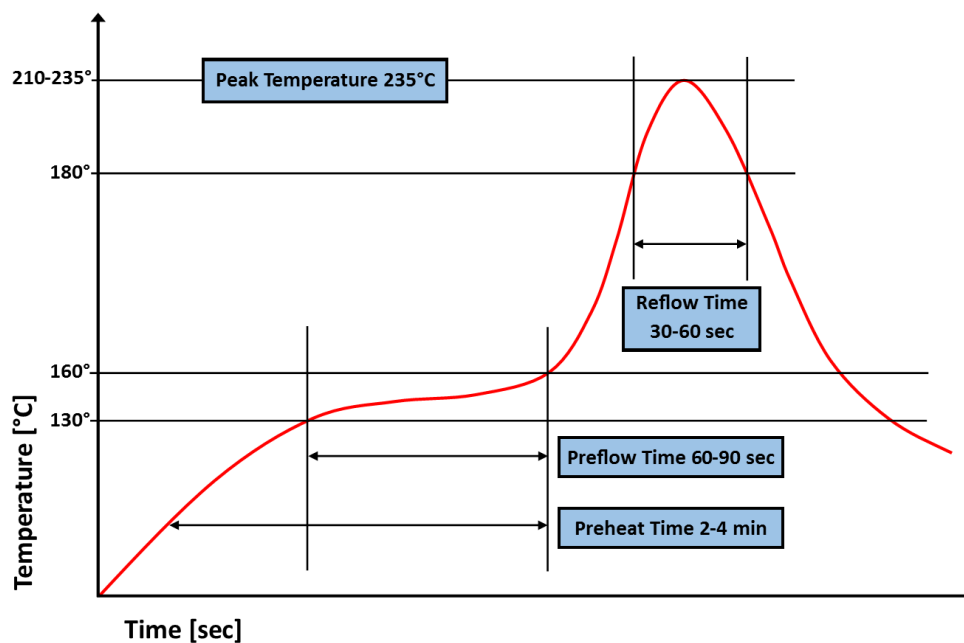

Figure 6 – Low Temperature Solder Reflow Thermal Profile
**Reflow:** The surface mount coupler is conducive to most of today's conventional reflow methods. A low and high temperature thermal reflow profile are shown in Figures 6 and 7, respectively. Manual soldering of these components can be done with conventional surface mount non-contact hot air soldering tools. Board pre-heating is highly recommended for these selective hot air soldering methods. Manual soldering with conventional irons should be avoided.